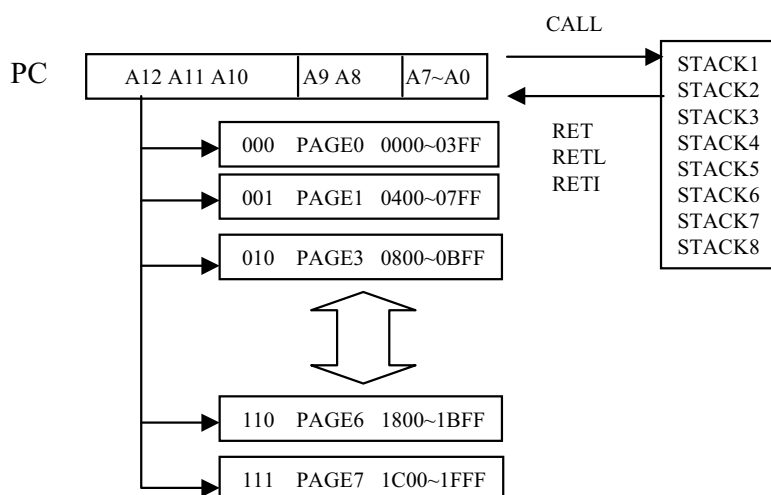

Fig.3 Program counter organization
* The structure is depicted in Fig.3